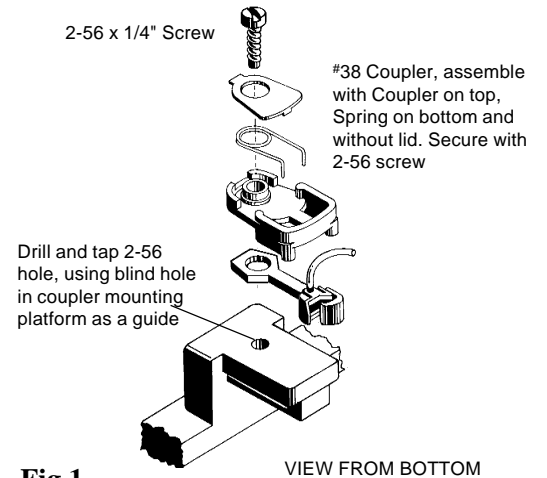

Fig.1
3. Assemble the #38 Coupler with Coupler on top, Torsion Spring on bottom and without lid on Coupler, as shown in Fig. 1. Install Coupler, align and secure with a 2-56 screw.